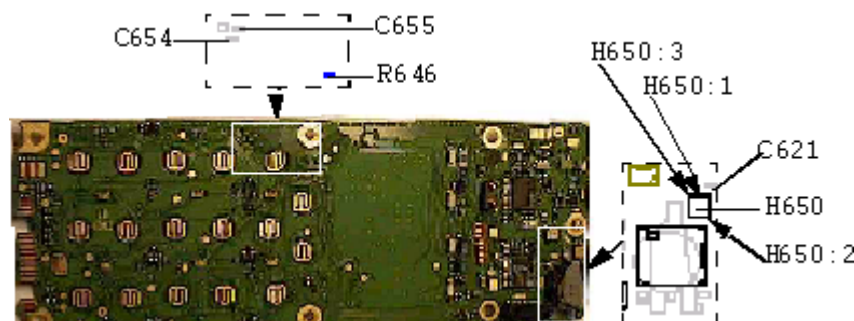

Fig. 9.4
Open the phone and check for liquid damages. Make sure the double LED, H650 (class A, fig. 9.4), is correctly soldered.
Measure the voltage at H650 pad 2 (~3.8V, fig. 9.4).
- If the voltage is missing, measure the resistance of R646 (470 ohms, class A, fig. 9.4).
- * If it's correct, measure the resistance of C621 (>10 kohms, fig. 9.4).
- * If it's less, replace these components in the mentioned order; C621, C614 and then C432 (all of them class A and in fig. 9.4 or 9.5). Note! Check the resistance if C621 after every component replaced.
Measure the resistance of C654 (>1 Mohms, class A, fig. 9.4).
Open the phone and check for liquid damages. Make sure the double LED, H650 (class A, fig. 9.4), is correctly soldered. If the solderings are correct, give the board power and start it up.
Measure the resistance of C655 (>1 Mohms, class A, fig. 9.4).